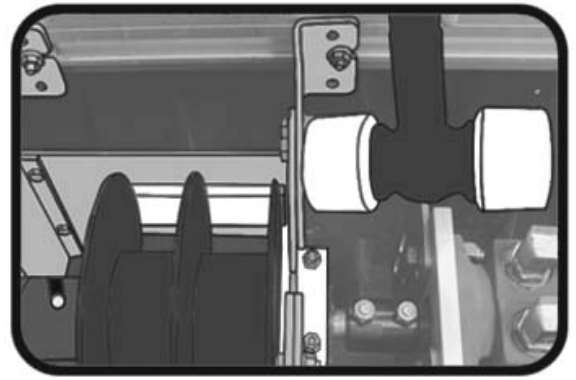

Fig. 5
Step 3: Operate the motor to engage the Double Dog Gear on the side closest to the mechanism tube. Lightly strike the Motor Mounting Brackets with a rubber mallet pressing them toward the tube. A slight movement should be enough. **(Fig. 5)**